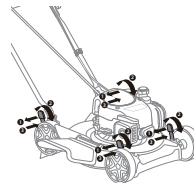

Fig. 8
2. To change the cutting height, squeeze the height adjuster lever toward the wheel (1).
3. Move the lever and wheel up or down to the desired position (2), release the lever to lock the wheel in position (3). Be sure the rear wheels and front wheels are at the same height (Fig. 8)